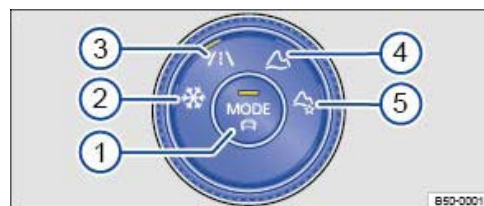

Fig. 145 In the lower section of the centre console: control for the 4MOTION Active Control.
Four-wheel drive vehicles feature a wider selection of driving profiles. In this case, you can select the driving profiles with the control of the 4MOTION Active Control → *Fig. 145*.
Key to → Fig. 145:
- Turn the control → Fig. 145 of the 4MOTION Active Control until the LED next to the desired driving profile lights up.
- Press in the centre of the control on  → Fig. 145.
- If necessary, turn the control → Fig. 145 of the 4MOTION Active Control until the LED next to the Off-road Individual driving profile lights up.
- If Off-road Individual was already selected, simply press in the centre of the control on  → Fig. 145.